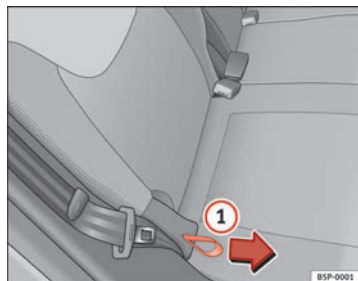

Fig. 98 Rear seat backrest angle adjustment
- Hold the backrest at the top. Pull the loop on the side of the seat ⇒ Fig. 98 ① in the direction of the arrow and hold the loop in this position. Push the backrest to the required position and release the loop.